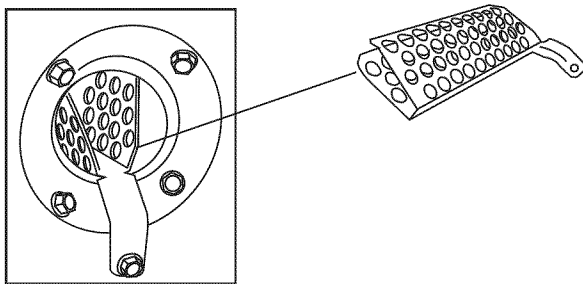

Fig. 33 - NOx Device
1. Remove the screw underneath the heat exchanger inlet that secures the NOx device in the heat exchanger. (See Fig. 33.)